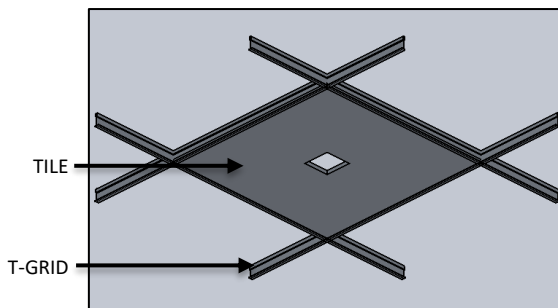

FIG. 21-TILE INSTALLATION
12. Cut a 3.375" high and 3.625" Wide Hole into the CEILING TILE and insert the TILE into the desired location as shown below in FIG. 21.